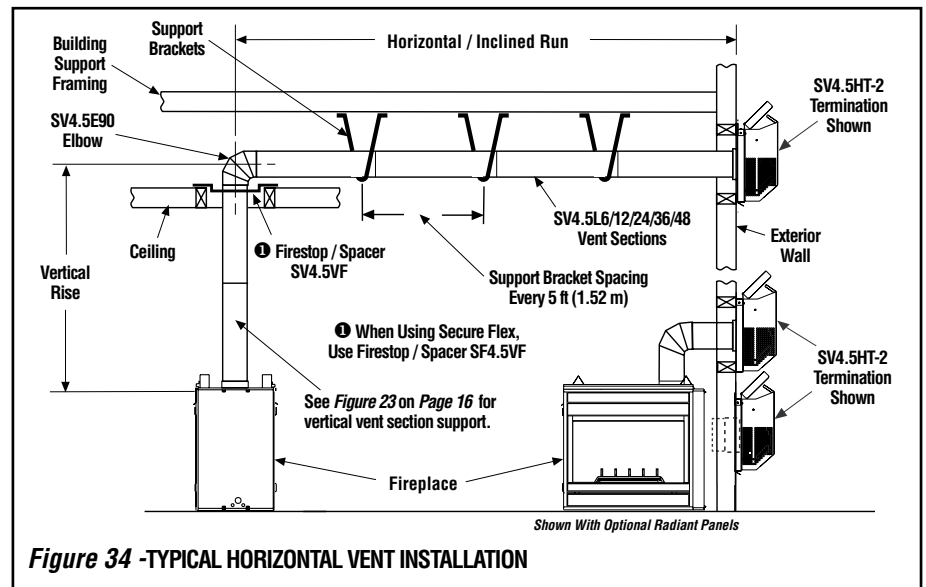

Figure 34 - TYPICAL HORIZONTAL VENT INSTALLATION
Figures 34, and Figures 37 to 42 on Pages 24 to 26 and their associated Horizontal Vent Table illustrate the various horizontal venting configurations that are possible for use with these appliances. **Secure Vent®** pipe applications are shown in these figures; **Secure Flex®** pipe may also be used. A Horizontal Vent Table summarizes each system's minimum and maximum vertical and horizontal length values that can be used to design and install the vent components in a variety of applications.
I. Continue installation of horizontal/inclined sections - Continue with the installation of the straight vent sections in horizontal/inclined run as described in **Step E**. Install support straps every 5 ft. (1.52 m) along horizontal/inclined vent runs using conventional plumber's tape. See **Figure 34**, it is very important that the horizontal/inclined run be maintained in a straight (no dips) and recommended to be in a slightly elevated plane, in a direction away from the fireplace of 1/4" rise per foot (20 mm per meter) which is ideal, though rise per foot run ratios that are smaller are acceptable all the way down to at or near level. Use a carpenter's level to measure from a constant surface and adjust the support straps as necessary.